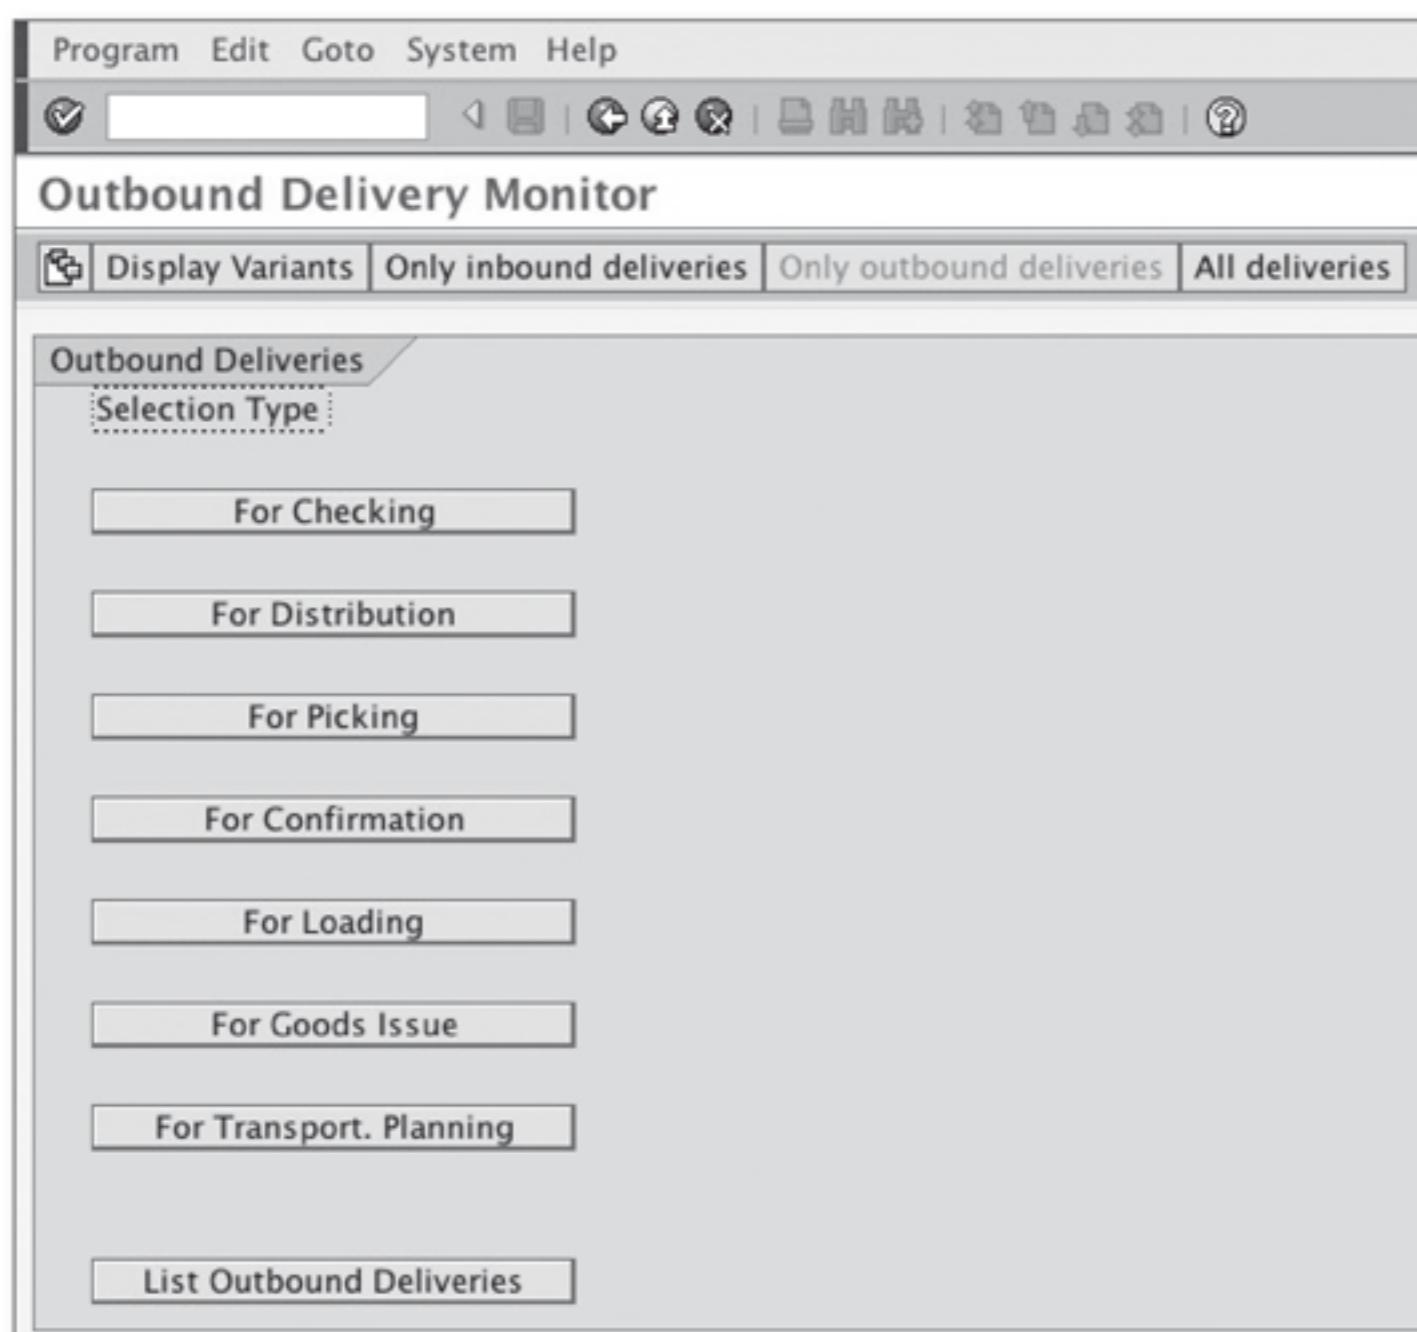

Figure 4.11 Outbound Delivery Monitor
1. Choose LOGISTICS • SALES AND DISTRIBUTION • SHIPPING AND TRANSPORTATION • PICKING • WAVE PICKS • CREATE • VIA OUTBOUND DELIVERY MONITOR. The Outbound Delivery Monitor is your single-point-of-contact with all of the delivery order related statuses (see Figure 4.11).